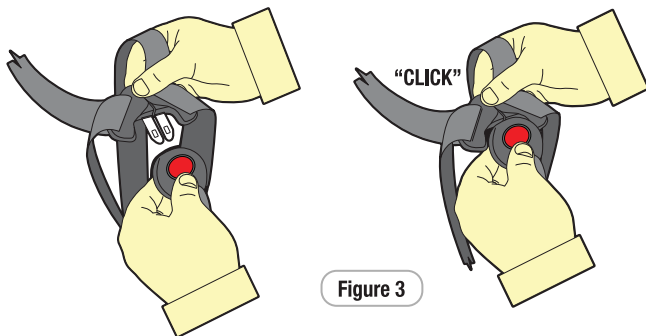

Figure 3
Step 3: Engage and disengage the Harness Tongues and Buckles several times until a strong audible “CLICK” is heard when inserting the last tongue (refer Figure 3).